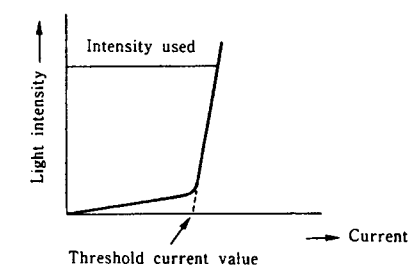

Fig. 12
5. Precautions at time of servicing (Fig. 12)
- (1) Semiconductor laser
- As illustrated in Fig. 12, the current and light intensity characteristics increase abruptly once the threshold current value is exceeded.